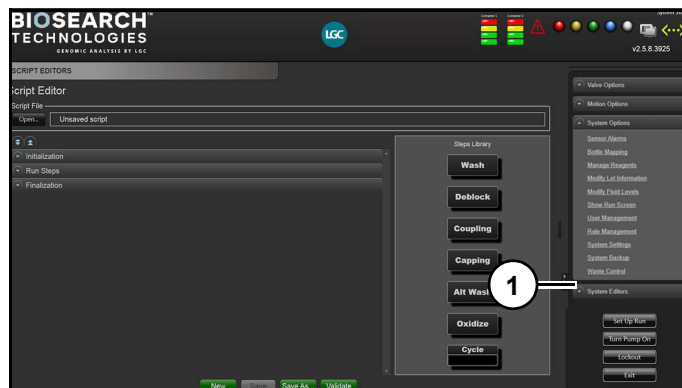

Figure 68
System Editor (1) (*Figure 68*) allows user to modify and create script files.